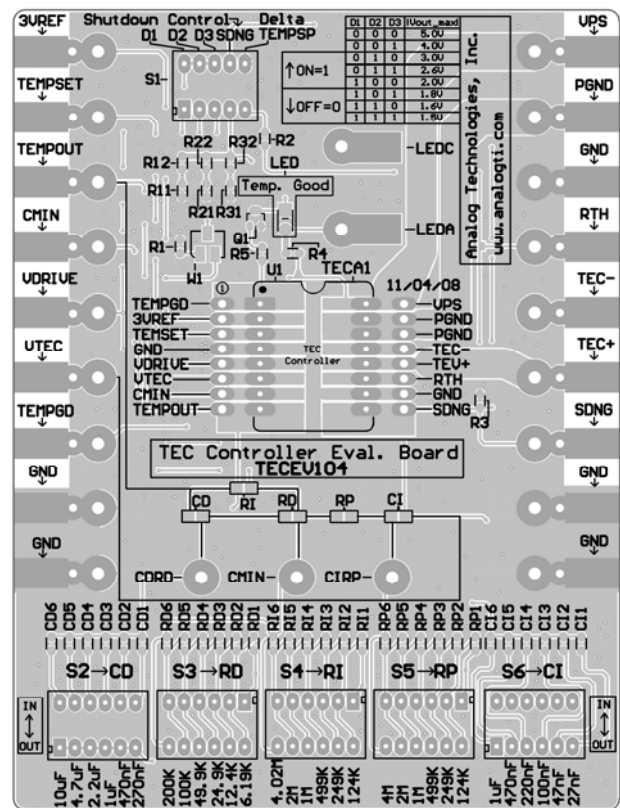
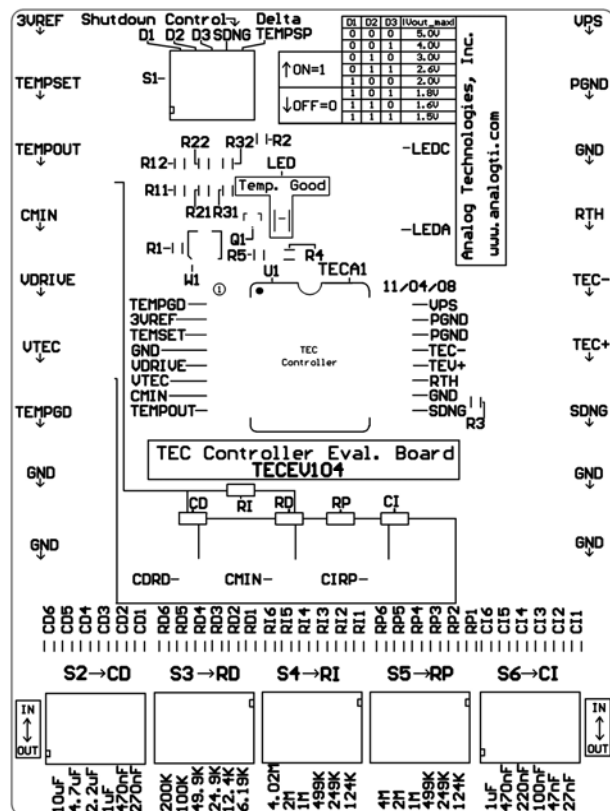

Figure 2 Top Silkscreen Layer with Other Top Layers
Figure 3 Top Silkscreen
The silkscreen layer of the evaluation board is shown in Figure 2 with other top layers, including top silkscreen, top copper, top solder mask, and multilayer (vias). Figure 3 only shows the image of top silkscreen layer. There is no component in the bottom side of the board, so that there is no bottom silkscreen layer image.
5. After tuning, the values of the capacitors for C_D and C_1 can be read off the capacitor selection switches. The values of the resistors, R_1 , R_D and R_p , can be measured by an Ohmmeter by connecting to the resistor pins. As seen in the photo of Figure 3, R_1 can be read off between TEMPOUT and CMIN test points; R_D can be read off between CMIN and CDRD test points; R_p can be read off between CMIN and CIRP test points.